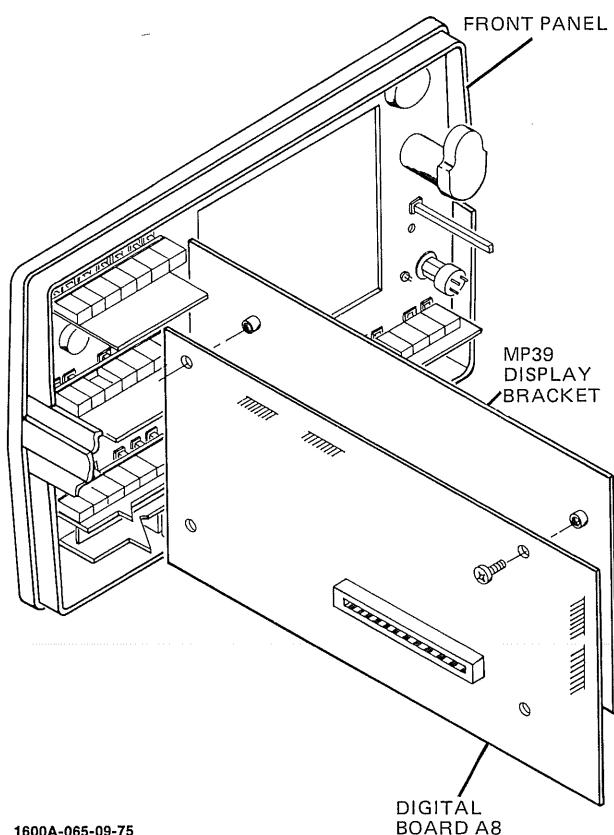

Figure 8-3. Digital Board A8 Removal
**8-10. Digital Board A8 Removal.** (See figure 8-3.)